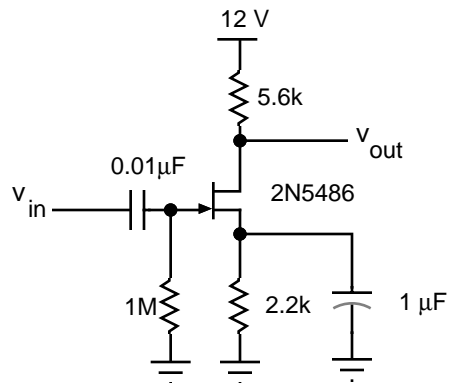

Fig. 7.6
a) Build the common source JFET amplifier of Fig. 7.6.